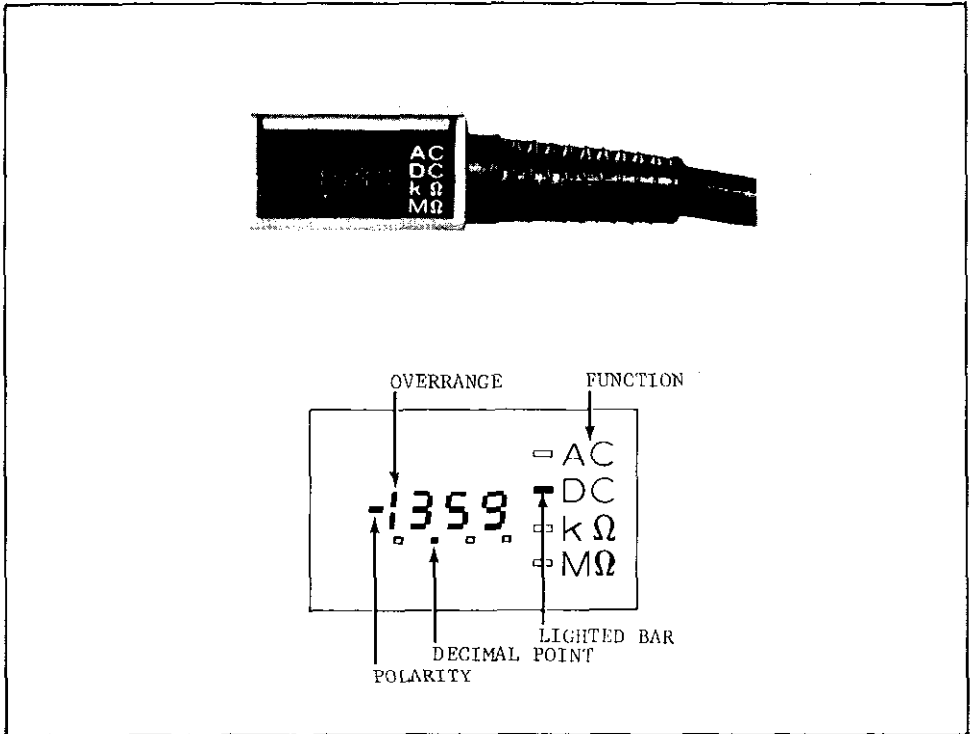

FIGURE 8. Digital Display
1. Measurement Procedure: Depress the "ACV" pushbutton to select ac voltage measurements. Make input connections using the probe or front panel "HI" and "LO" terminals as described in paragraph 3-3. Depress the "push-to-read" switch to turn-on the display. The digital display is described fully in Figure 8 and the caption below the illustration.
3-12. DISPLAY. The Model 167 display consists of a compact LED module installed in the probe. The display indicates 3 full digits plus overrange "1", automatic decimal location, automatic polarity, and range as shown in Figure 8. The individual digits are composed of seven-segments and are readable from a wide viewing angle since they are in one plane. A lighted bar identifies the function selected as either "ACV", "DCV", or "OHMS". When "DCV" is selected, the polarity is indicated as "-" for a negative input. A positive input is implied if the "-" sign is turned off. The lighted bar indicates either "k Ω " (kilohms) or "M Ω " (megohms) when the "OHMS" function is selected.